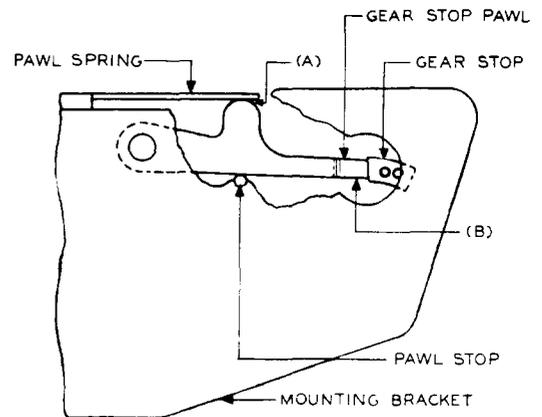

Fig. 9 - Gear Stop Pawl Position
- (c) Fig. 9(A) - With the timer gear moved slightly from its normal position and with the pawl resting against the pawl stop, the pawl spring shall touch the pawl.
- \* (d) Readjust Only: Fig. 9(B) - The tension of the pawl spring shall be